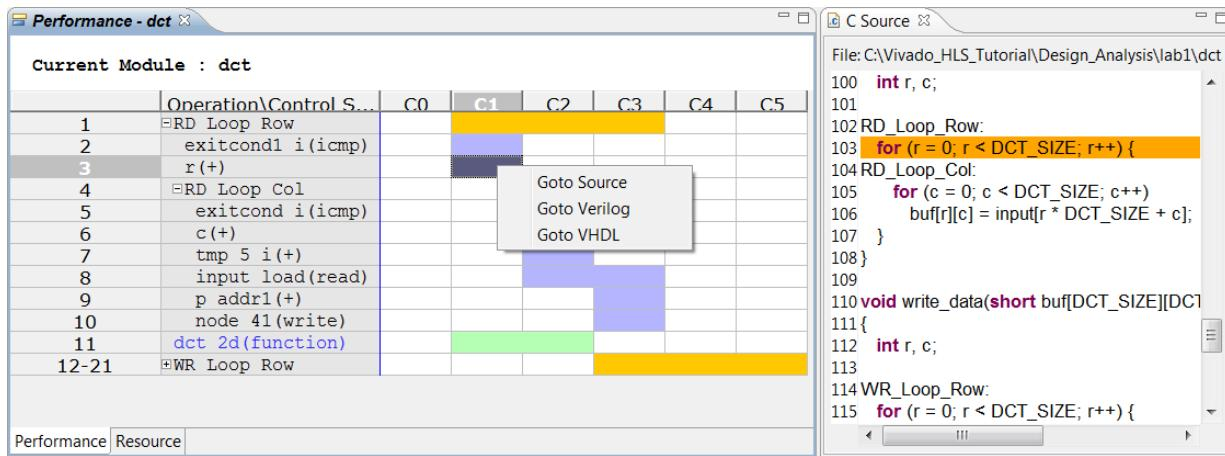

Figure 6-10: C Source Code View
3. Select the adder in state C1, right-click and select **C source code** (Figure 6-10).
This opens the C source code to highlight which operation in the C source created this adder. From the details on screen (also shown in Figure 6-10), you can determine it is indeed the loop counter. It is the only addition on this line, and the variable is named "r".